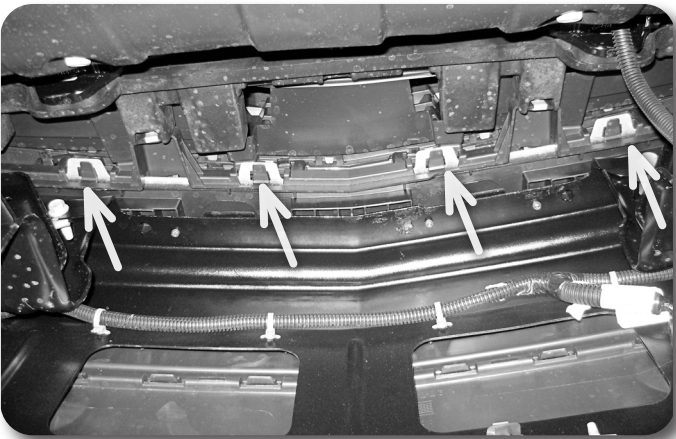
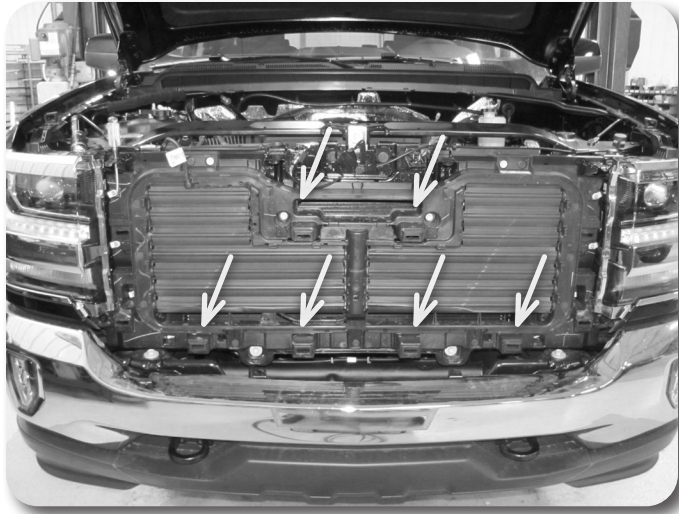

Figure 3A
Figure 3B
3. The lower and middle part of the grill clips into the core support. Be careful when removing the grill to not break the clips. Starting on the top pull up on the locking tabs near the bolt holes and slowly pull out on the grill. Try to pull near the compression clips to prevent the grill from bending / breaking. **Figure 3A** On 2018 models pull the grill outward by holding it near each clip. There is no tabs to lift like the earlier years. **Figure 3B**